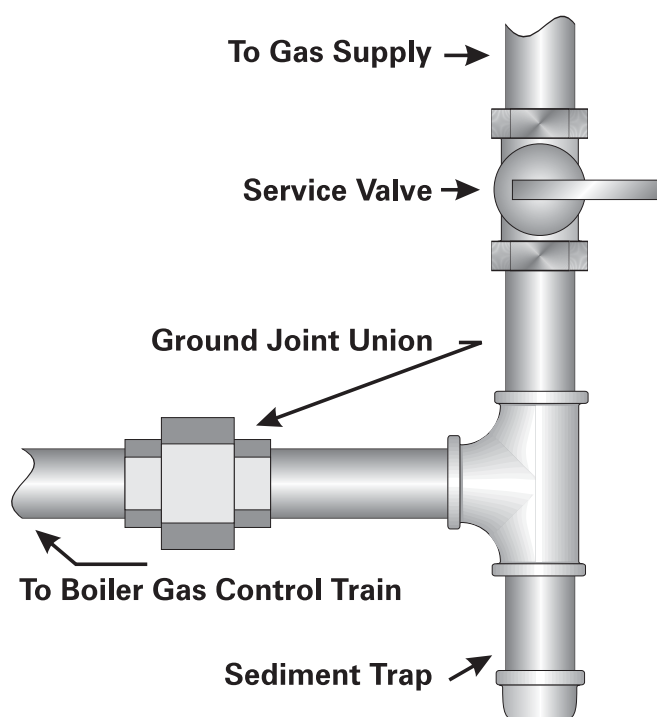

Figure 7.2: Gas Supply Connection to Boiler
4. Install a Service Valve, Sediment Trap and Ground Joint Union at the supply connection to the Gas Control Train as shown in Figure 7.2. These are not supplied with the boiler. Install them in accordance with local codes.